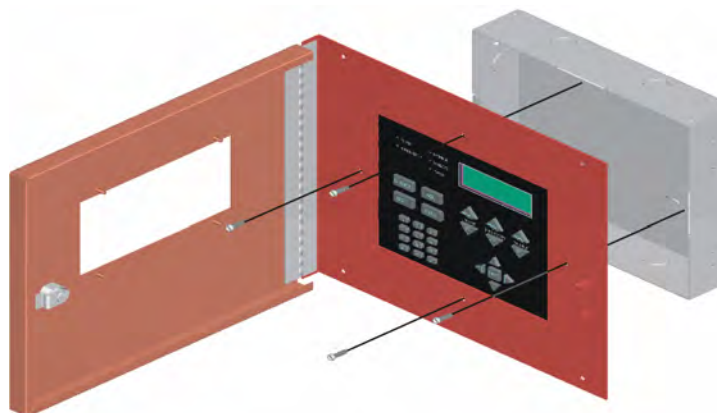

Figure 4.16 Attaching Annunciator/Door Assembly to Backbox
3. Attach the annunciator and door assembly to back box as shown in Figure 4.16 using the supplied screws.